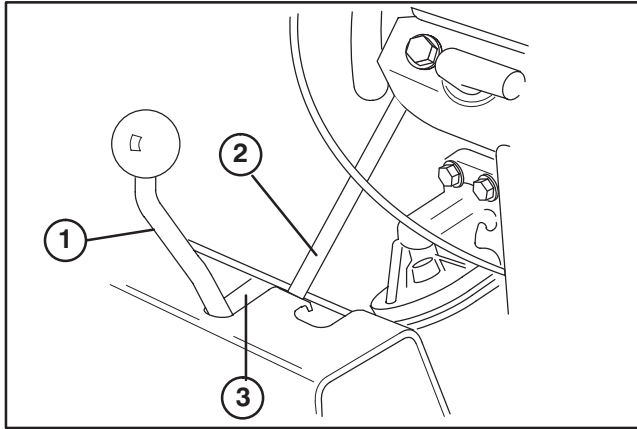

Figure 45
2. Check location of throttle control rod. Throttle control rod to be flush with left edge of neutral slot in gear shift plate (Fig. 45).